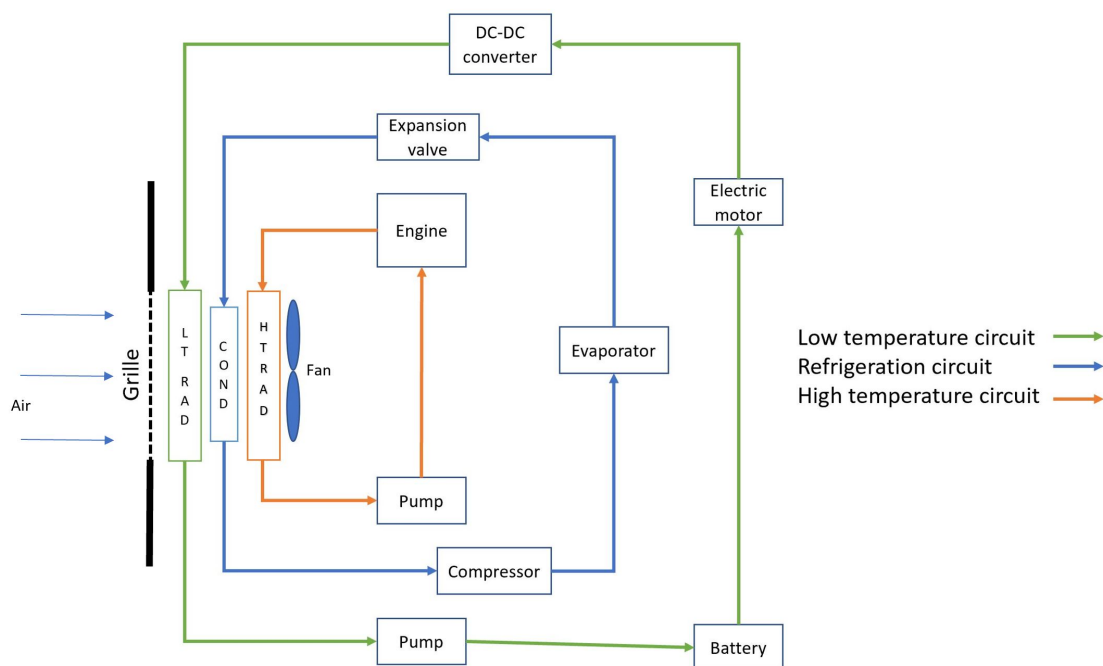

Figure 1: Circuit diagram of the cooling system
A hybrid car is being driven at 80km/h (varies for each group) in the Alps at an altitude of 1500m above sea level where the static pressure and temperature are 84300 Pa and 287.15K, respectively. The underhood compartment of the car consists of 4 circuits: the air circuit, low-temperature(LT) circuit, high-temperature(HT) circuit and a refrigeration(RF) circuit as shown in Figure 1.